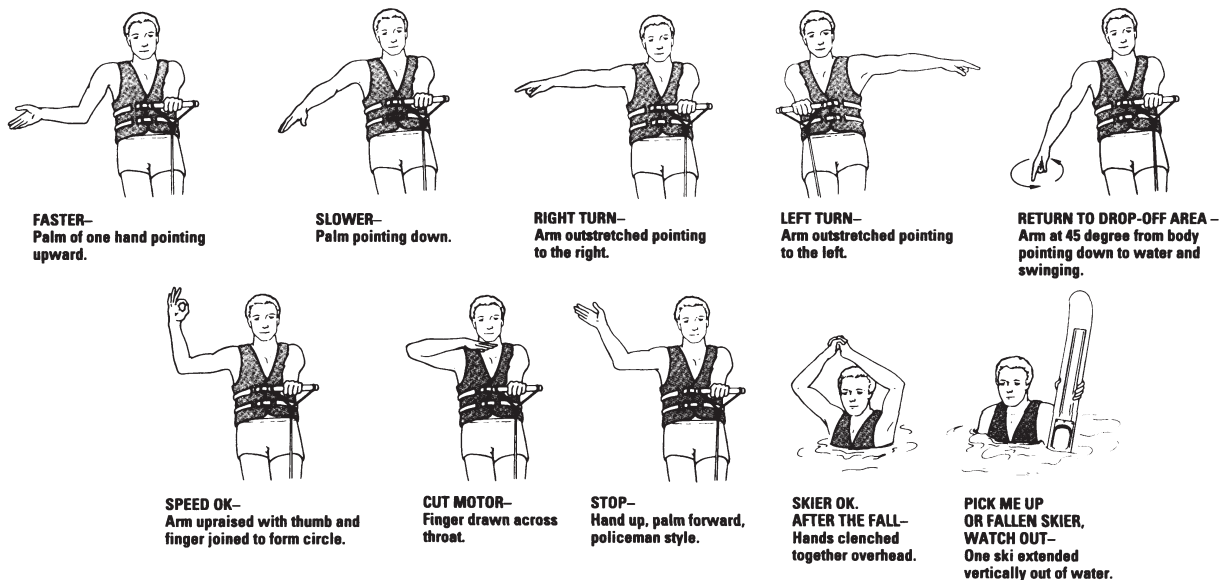

Figure B17: Skier's Hand Signals
3. Have a second person aboard to observe the skier and inform the driver about the skier's hand signals (Figure B17). The driver must give full attention to operating the boat and the waters ahead.